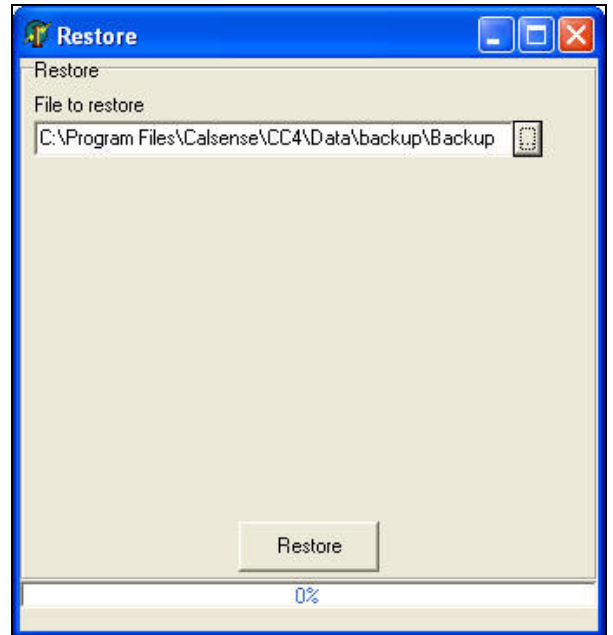

Figure 31.2.11
- This will open up the **Restore** screen. Make sure that the file address that you chose in step 12 is the same one appearing in the **File to restore** box (Figure 31.2.11).